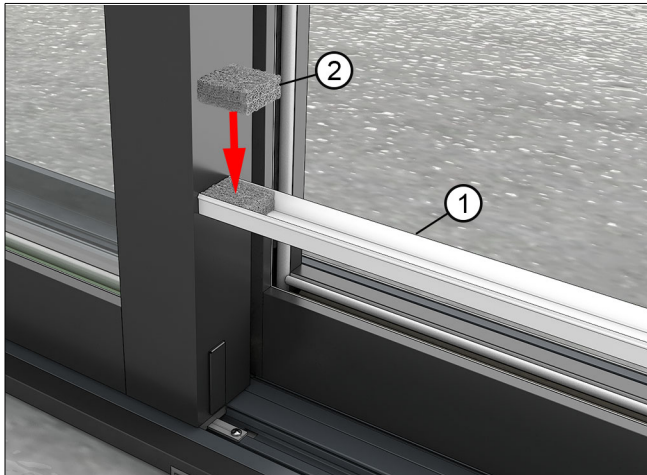

Figure 175 Uni-directional shown
1. Where a cover meets a panel, insert a sill drain filter in the end of the cover before installing it in the sill. See Figure 175.